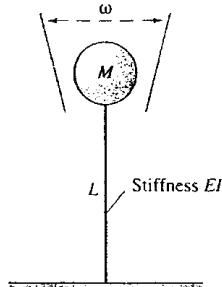

Fig. P5.64
- 5.64** The natural frequency  $\omega$  of vibration of a mass  $M$  attached to a rod, as in Fig. P5.64, depends only upon  $M$  and the stiffness  $EI$  and length  $L$  of the rod. Tests with a 2-kg mass attached to a 1040 carbon-steel rod of diameter 12 mm and length 40 cm reveal a natural frequency of 0.9 Hz. Use these data to predict the natural frequency of a 1-kg mass attached to a 2024 aluminum-alloy rod of the same size.